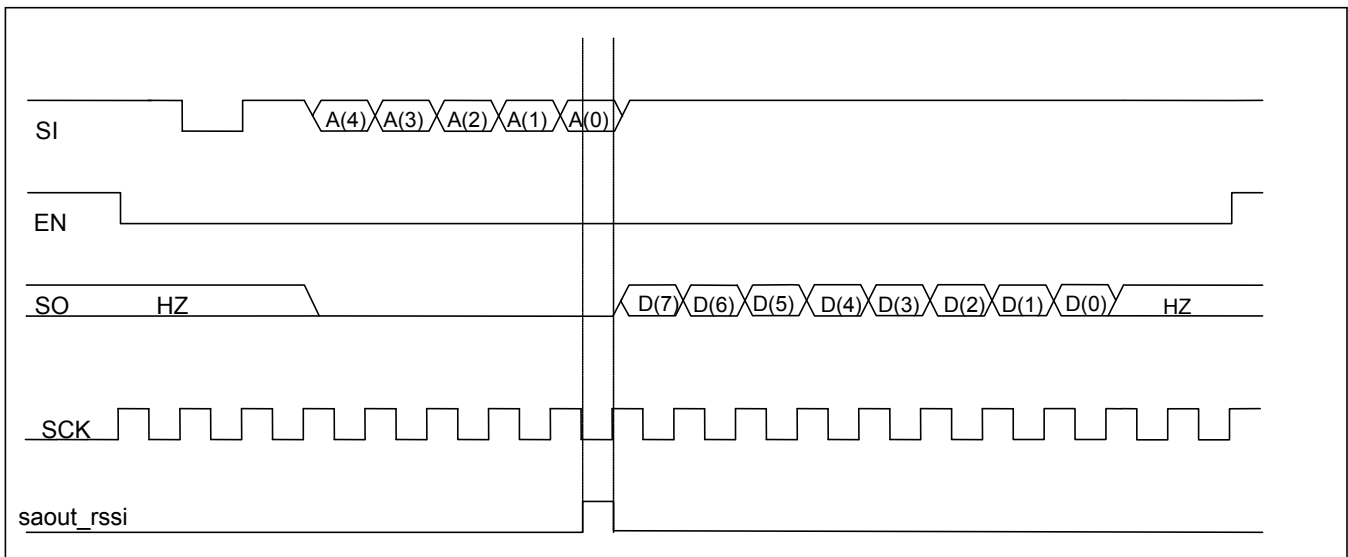

Figure 6: Generation of saout\_rssi
**Note on the Dataout\_RSSI update:** during a read sequence of the Dataout\_RSSI Status Register, the Saout\_rssi signal is generated internally as illustrated in the Figure 6 below. It can be seen the value of the Dataout\_RSSI Status Register is updated upon transmission of the bit A0 on the SI line. The maximum frequency of SCK during the read operation of the RSSI value is 100 kHz.